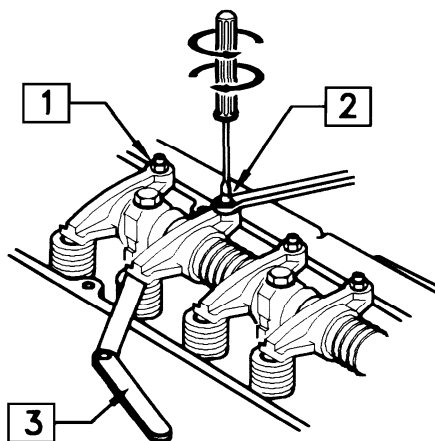

Fig. 7.2
With the rocking cover removed, loosen the rocker nut (1) and while the adjustment screw (2) is rotated, adjust the valve play with a gauge (3) (Fig. 7.2).